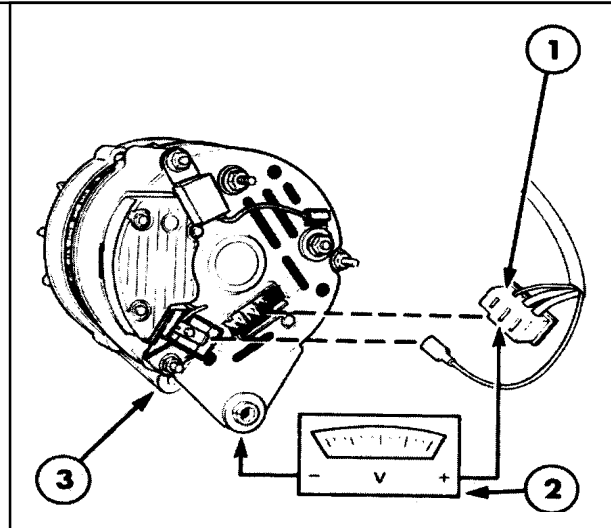

Figure 9
1. With reference to Figure 9. Turn the key start switch on but do not start the engine.